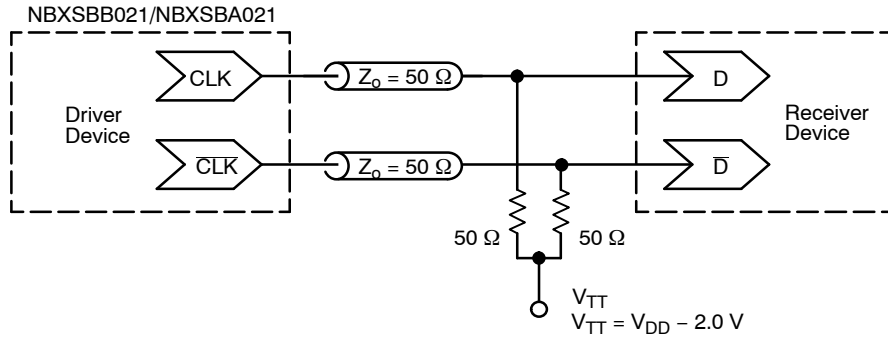

Figure 4. Typical Termination for Output Driver and Device Evaluation
2. Measurement taken with outputs terminated with 50 ohm to $V_{DD}-2\text{ V}$. See Figure 4.
- Measurement taken with outputs terminated with 50 ohm to $V_{DD}-2\text{ V}$. See Figure 4.